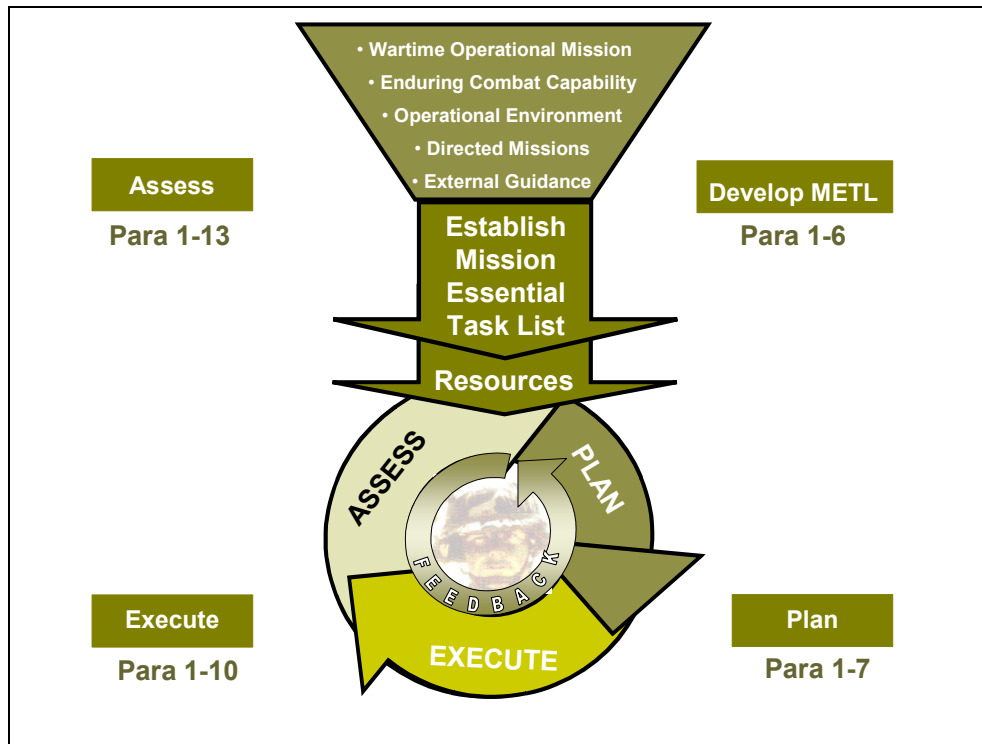

Figure 1-6. Army Training Management Cycle
(1) Guidance, based on wartime mission and priorities, flows from the top-down and results in subordinate units' identification of specific collective and individual tasks that support the higher unit's mission. Input from the bottom up is essential because it identifies training needs to achieve task proficiency on identified collective and individual tasks. Leaders at all echelons communicate with each other about requirements, and planning, preparing, executing, and evaluating training.
(2) Senior leaders centralize planning to provide a consistent training focus from the top to the bottom of the organization. However, they decentralize execution to ensure that the conduct of mission related training sustains strengths and overcomes the weaknesses unique to each unit. Decentralized execution promotes subordinate leaders' initiative to train their units, but does not mean senior leaders give up their responsibilities to supervise training, develop leaders, and provide feedback.
f. **Battle Focus Training Management.** The foundation of the training process is the Army Training Management Cycle (Figure 1-6). In the METL development process, training must be related to the organization's operational wartime mission and focus on METL tasks. Leaders develop the long-range, short-range, and near-term training plans to train for proficiency on METL tasks. After training plans are developed, units execute training by preparing, conducting, and recovering from training. The process continues with training evaluations that provide bottom-up input to organizational assessments. Organizational assessments provide necessary feedback to the senior commander that assist in preparing the training assessment.